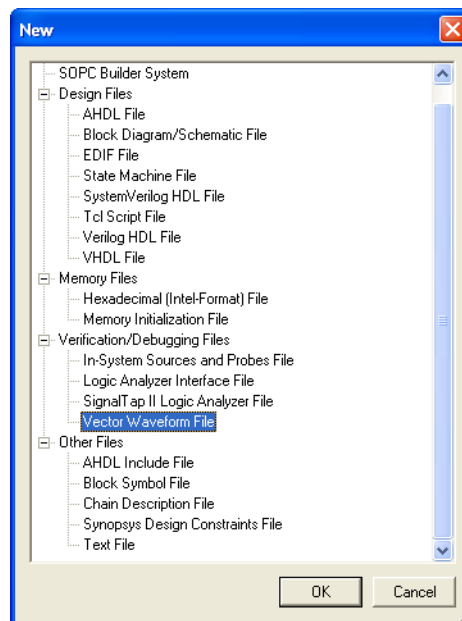

Figure 3. Need to prepare a new file.
1. Open the Waveform Editor window by selecting **File > New**, which gives the window shown in Figure 3. Choose **Vector Waveform File** and click **OK**.